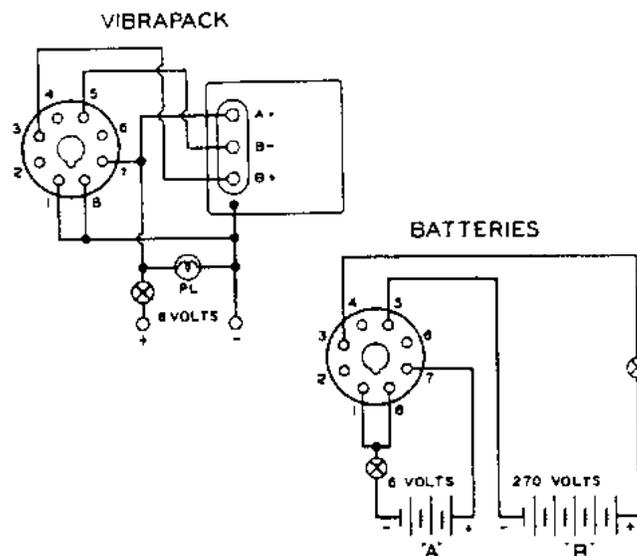

Figure 10. Octal plug wiring diagram
2. Wire an octal plug, as shown in Fig. 10, and plug it into socket SO-1. Use #19 (AWG) wire leads for the 270 volt "B" supply connections to pins #3 and #5, and #12 (AWG) wire leads for the 6 volt battery connections to pins #1, #7, and #8. **CAUTION.** Check the wiring carefully before connecting to the battery supply. The chart below lists the current and voltage data.